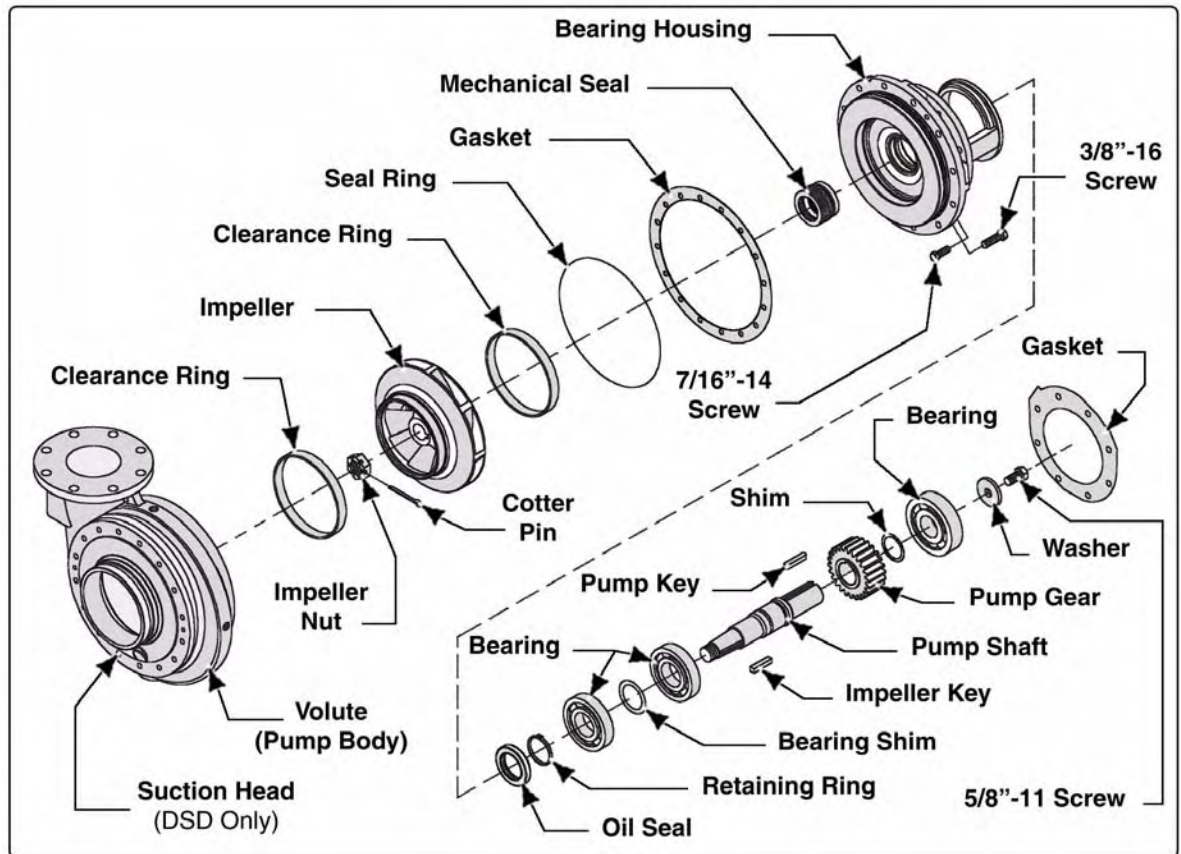

Figure 6-2: 8FG / DSD Pump Parts Identification
(See Figure 6-2: “8FG / DSD Pump Parts Identification.”) Also see Figure 6b-1: “Intermediate Shaft and Sliding Gear, Typical G Series Gearbox” on page 97.
2. Match mark the bearing housing, volute, and suction head to ensure proper re-alignment during reassembly. Also see Figure 6-2: “8FG / DSD Pump Parts Identification” on page 73.